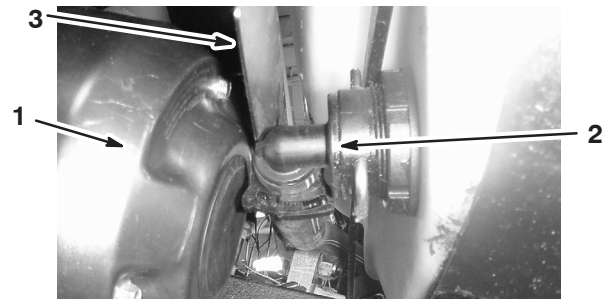

Figure 54
3. Disconnect the hose located on the lower-front face of the tank (Fig. 54).
Note: You may need to push the heat shield (Fig. 54) back as you remove the cover.
7. Connect the hose on the front of the tank (Fig. 54).